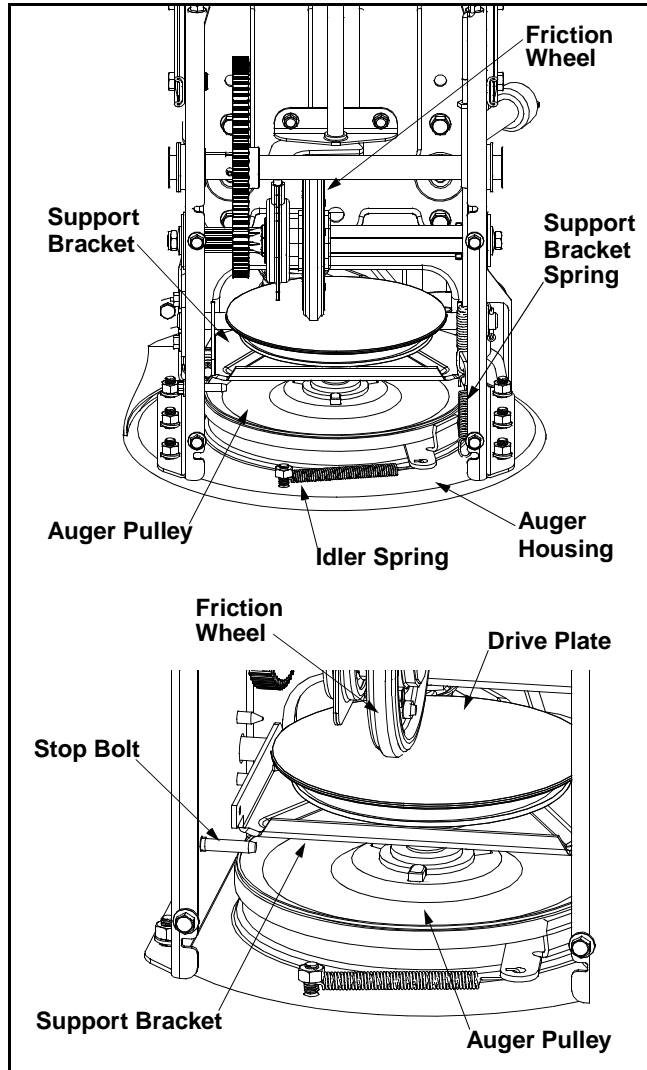

Figure 18
- Unhook the idler spring from the hex bolt on the auger housing. See Figure 18.
- Lift the auger belt from the auger pulley, and slip belt between the support bracket and the auger pulley. See Figure 18.
- Back out the stop bolt until the support bracket rests on the auger pulley. See Figure 18.
NOTE: The support bracket must rest on the stop bolt after the new belt has been assembled. See Figure 18.